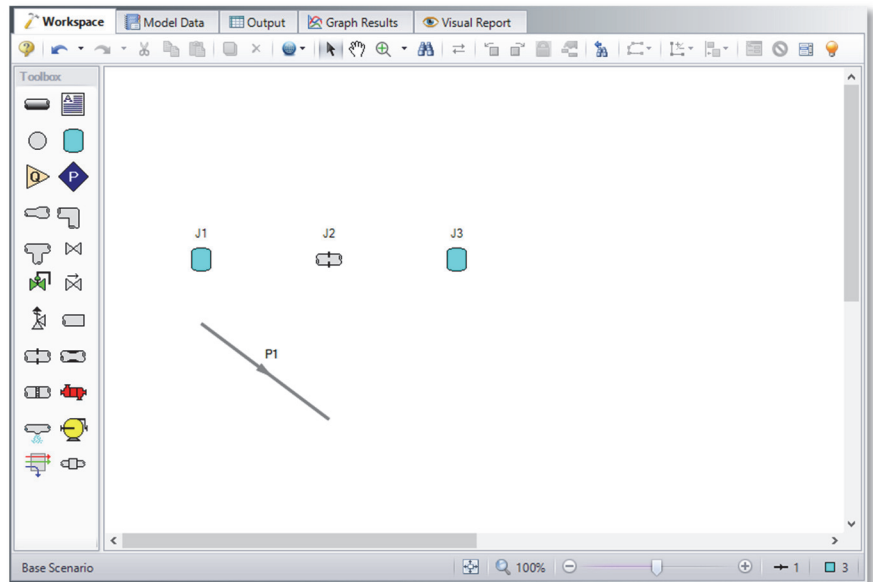

Figure 2.5c Walk through model with first pipe drawn
- **To create a pipe,** click the Pipe Drawing Tool icon on the Toolbox. The pointer will change to a crosshair when you move it over the Workspace. Draw a pipe below the junctions, similar to that shown in Figure 2.5c.